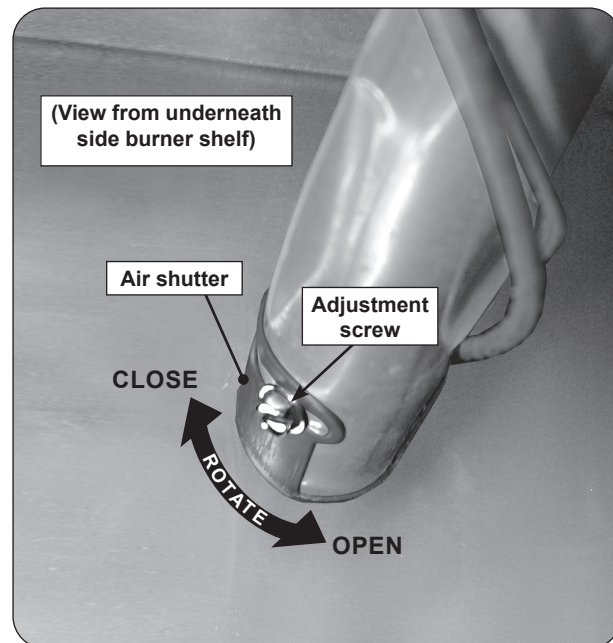

Fig. 34-1 Side burner air shutter adjustment detail
2. Loosen the adjustment screw with a flathead screwdriver, then carefully rotate the shutter to open or close it. See Fig. 34-1 for details.